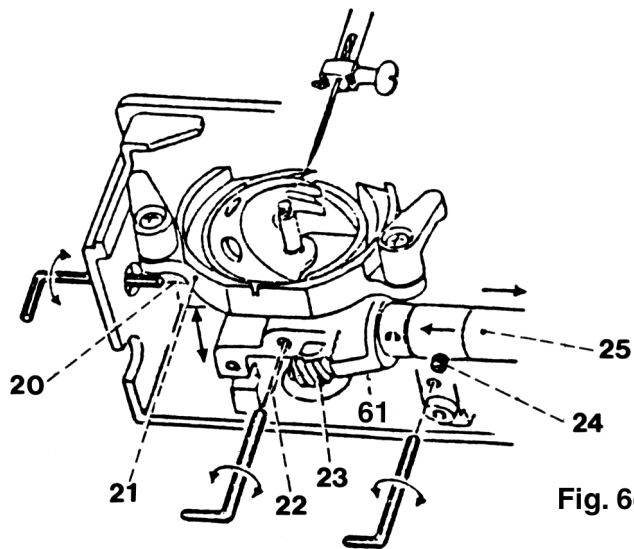

Fig. 6c
- Loosen screw 24 with a 2.5 mm Allen key (fig. 6c).